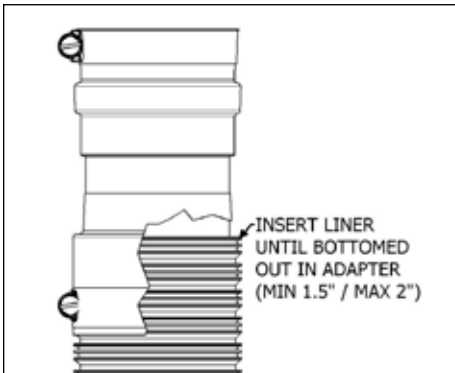

Figure 13
5. Place adapter on liner (the inner tube fits inside the liner and the outer tube fits outside the line). The adapter when properly seated will cover marks made on liner in step 1 (**Figure 13**).